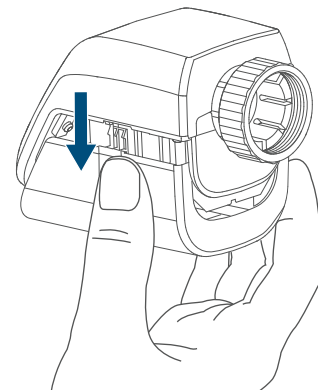

Figure 2
- Remove the insulation strip from the battery compartment of the radiator thermostat (B) and the window / door contact (M).
- Press and hold down the system button (D) for at least 4 seconds to activate the pairing mode. The device LED (D) starts to flash orange. Pairing mode remains activated for
- Press and hold down the system button of the radiator thermostat (D) for at least 4 seconds to activate the pairing mode (see figure 2). The device LED (D) starts to flash orange. Pairing mode remains activated for 3 minutes.
- Press and hold down the system button of the window / door contact with magnet (L) for at least 4 seconds to activate the pairing mode. The device LED (L) starts to flash orange.
- Open the battery compartment (**B**) by pulling the battery compartment down (see „Figure 2“ on page 27).